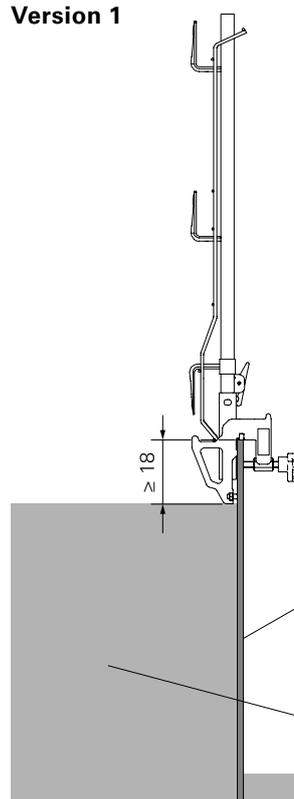

Fig. A2.12
- Mount Triple Wingnut (4b) in the direction of the lower level. (Fig. A2.12)